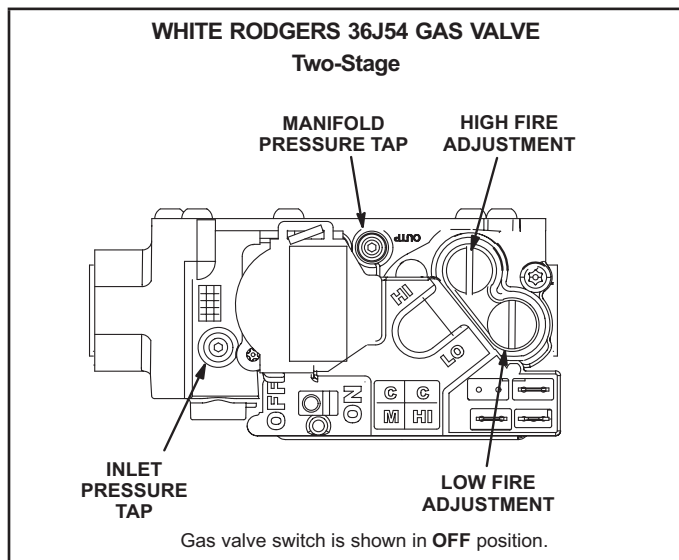

FIGURE 19
Gas Valve Operation (FIGURE 19)
- 5 - Move gas valve switch(es) to OFF. See FIGURE 19.
- 6 - Wait five (5) minutes to clear out any gas. If you then smell gas, STOP! Immediately call your gas supplier from a neighbor's phone. Follow the gas supplier's instructions. If you do not smell gas, go to the next step.
- 7 - Move gas valve switch(es) to **ON**. See FIGURE 19.